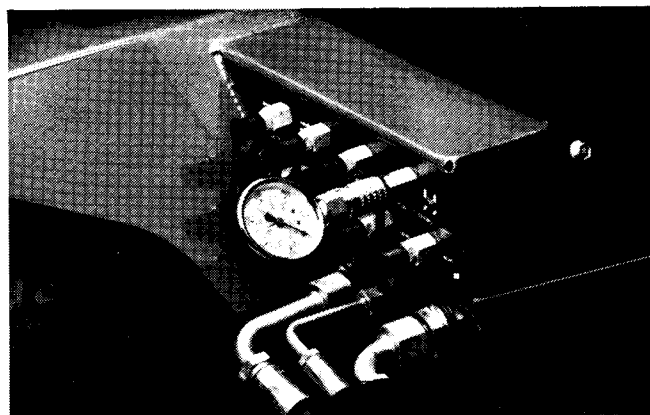

Figure 11
1. Connect a 5,000 psi gauge onto POWER STEERING test port (Fig. 11).
2. Connect a 5,000 psi gauge onto POWER STEERING test port (Fig. 11).